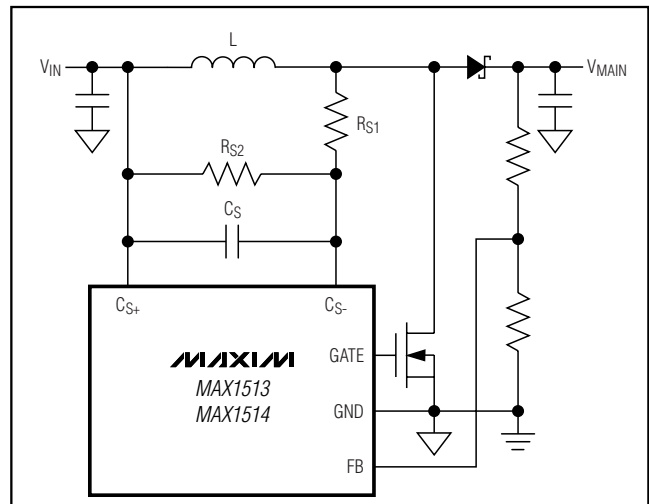

Figure 9. Lossless Current Sensing with  $V_{SENSE} > 100mV$
5) If  $V_{SENSE}$  is greater than 100mV, the current-feedback signal is too high and can trip the current limit before the full load current is delivered. Use the current-sense configuration in Figure 9 to attenuate the sense signal. Define the scale factor (SF) as:
Because  $V_{SENSE}$  would be greater than 100mV, the circuit in Figure 9 should be used and the scale factor is: